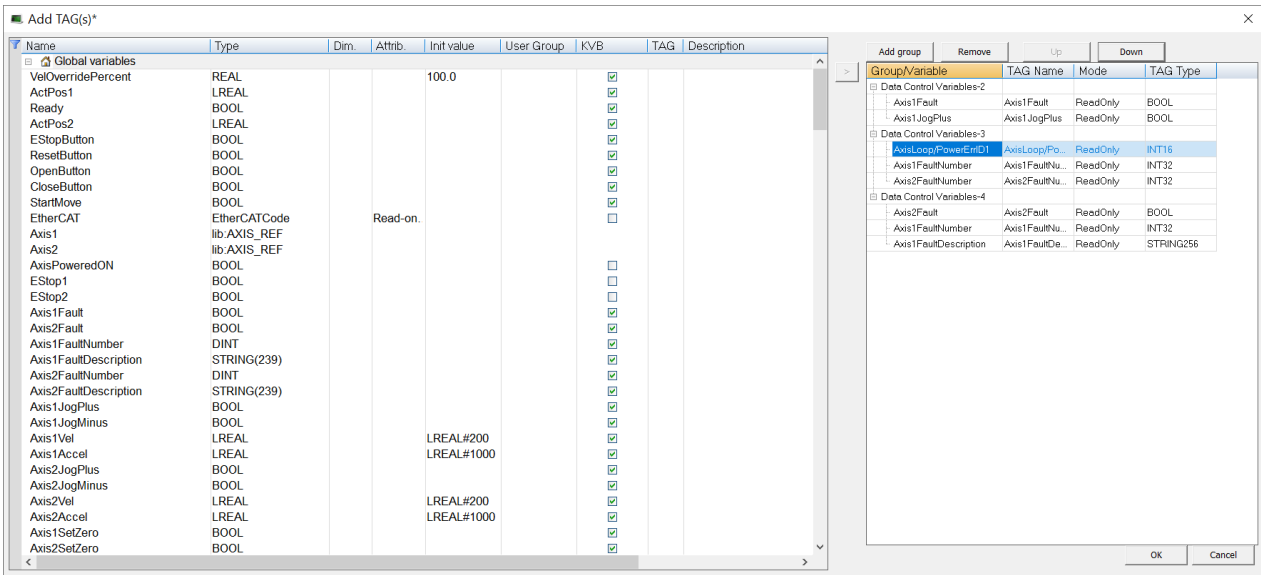

Figure 2-26: Selected variable to remove
1. In the "OPC UA - Add TAG(s)* dialog box" (→ p. 64), in the **Group/Variable** table, select a variable. (Figure 2-26)